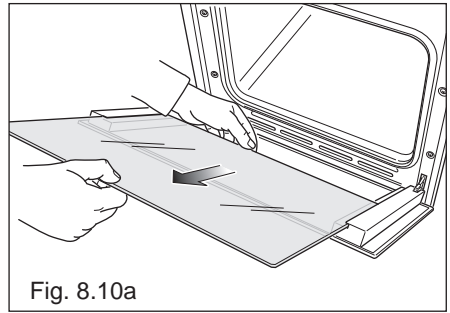

Fig. 8.10a
- Gently pull out the inner pane of glass (fig. 8.10a)